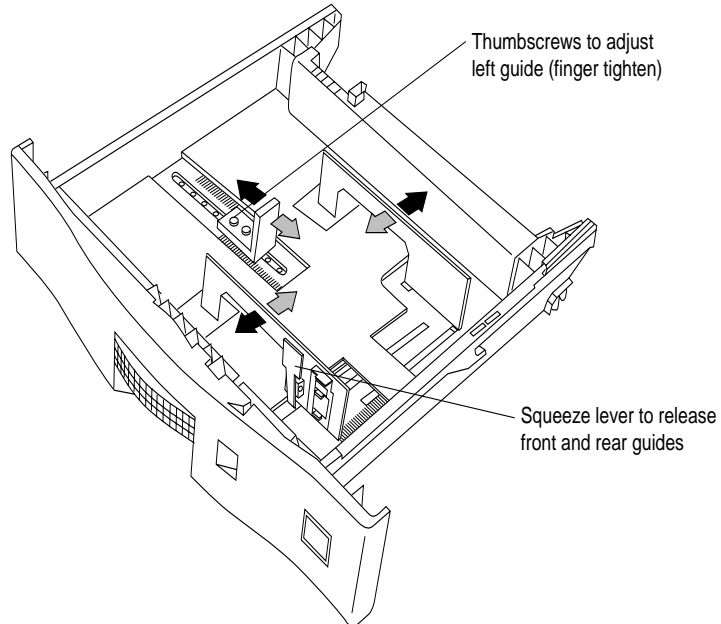

Figure 4-50 Adjusting Paper Guides
5. Slide the paper guides to fit your paper or media, as shown in Figure 4-50.